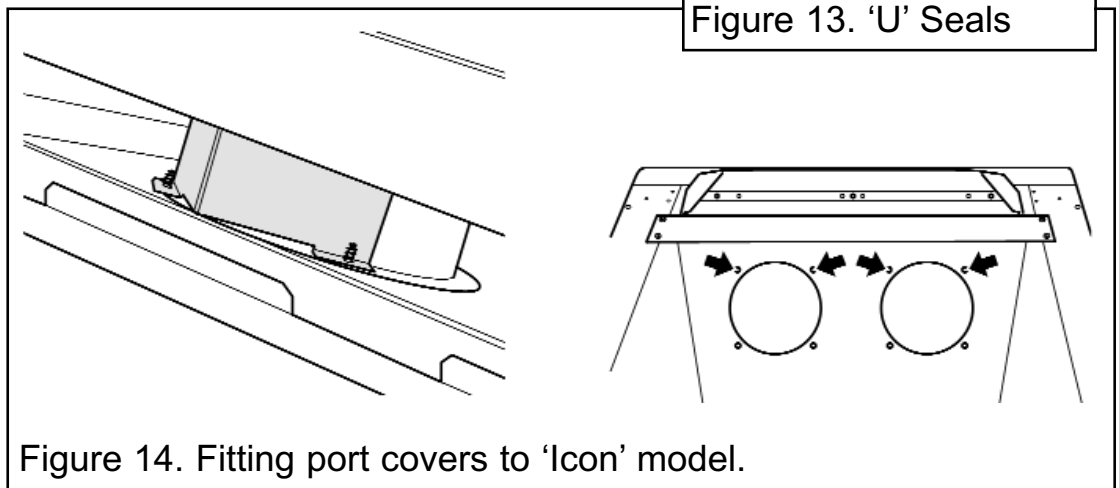

Figure 14. Fitting port covers to 'Icon' model.
5. The ‘Icon’ fascia is supplied with two port covers. To fit the port covers unscrew the four cross over port screws shown in figure 14. Put the port covers in place and refit the screws previously removed. *Ensure that the screws are tight and that the cross over ports have returned to their original position. Also check that there are no gaps between the cross over ports and the surfaces they are screwed to* (See figure 14).